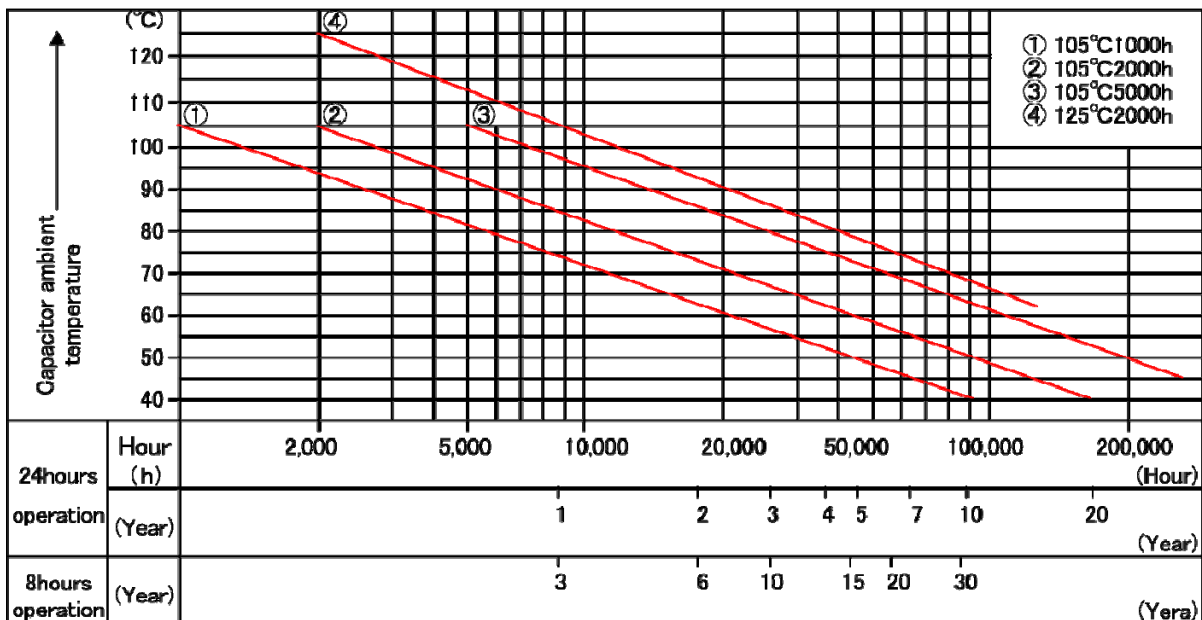

Fig.11 Derating Life Time Quick Reference Guide
The dissipating speed of electrolyte changes with the rate doubling with every 10°C increase in temperature, this "double rule with 10°C" will be applied between 40°C and about 140°C. Therefore, expected life at operating temperature can be described in equation (1). for quick calculation, see Fig.11